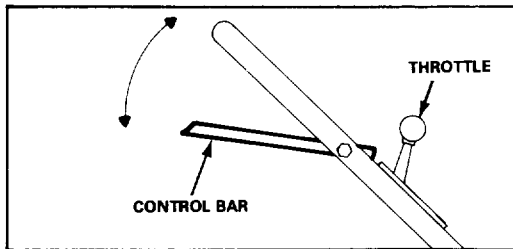

Figure 8
3. **STARTING**—Move throttle to CHOKE (Fig. 8). Pull fingertip starter and regulate throttle as desired when engine starts. When temperature is near 40°F, a few extra pulls may be required because the engine needs priming.
5. **TRACTION OPERATION**—Squeeze control bar against handle to drive. Ground speed varies, depending on space between control bar and handle (Fig. 8).